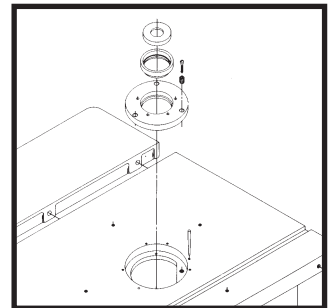

Fig. 14
Three table inserts are provided for various size cutters (Fig. 14). The large insert is adjustable. To set it flush with the table:
1. Remove the three slotted head screws (A) Fig. 14.
2. Use a screwdriver to turn the three adjusting screws (B) Fig. 14 until the insert is flush with the table.
3. Replace the slotted head screws (A).